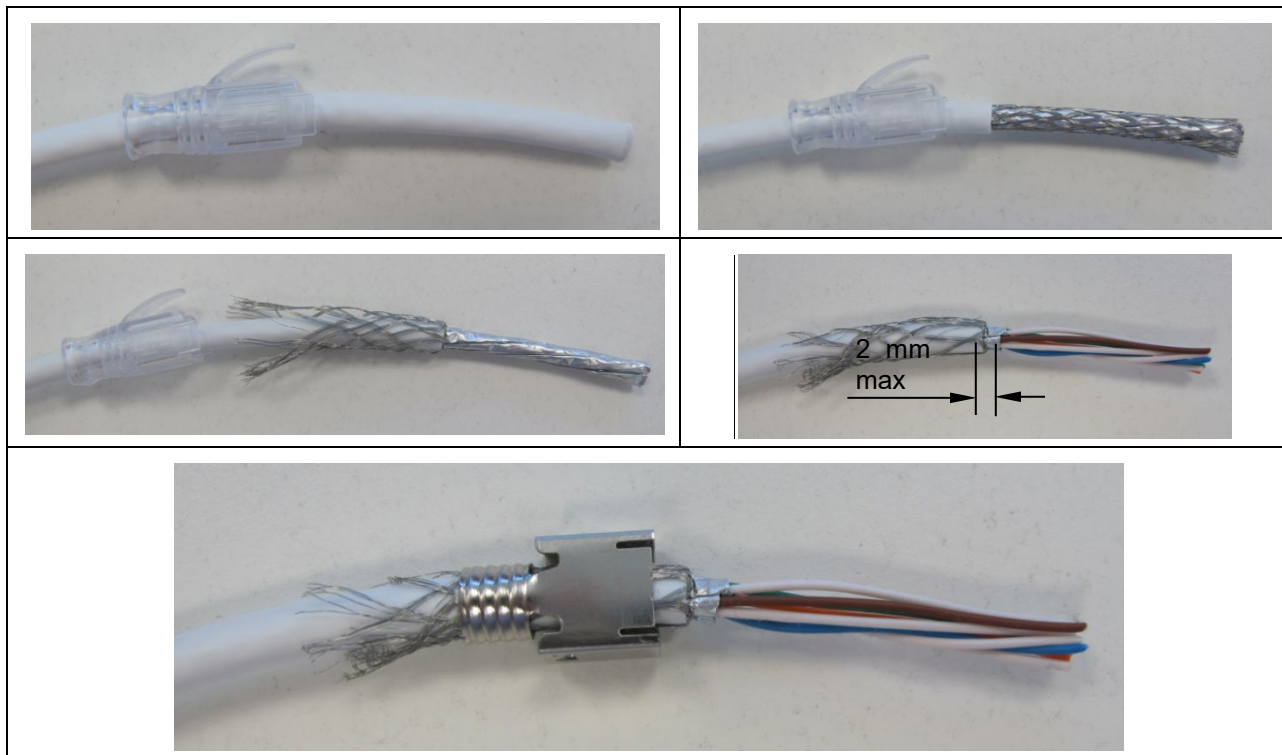

Figure 3: Cable Preparation
1. Slide each boot over the relevant end of the cable before the cable stripping operation (Figure 3).